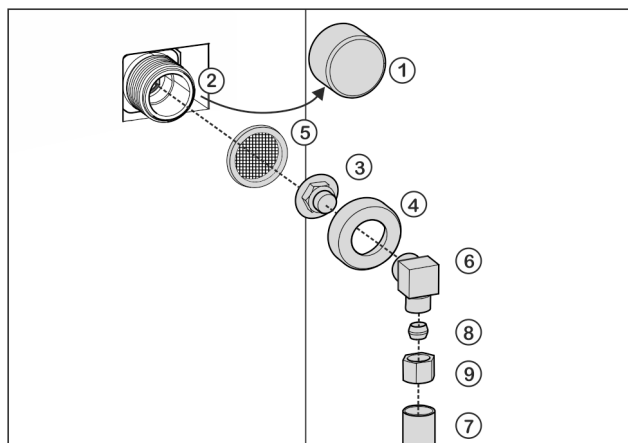

Fig. 28
- ▶ Remove cap *Fig. 28 (1)* from solenoid valve *Fig. 28 (2)*.
- ▶ Insert coupler *Fig. 28 (3)* into union nut *Fig. 28 (4)*.
- ▶ Insert the filter *Fig. 28 (5)* with the recess pointing down towards the coupler *Fig. 28 (3)*.
- ▶ Screw the union nut *Fig. 28 (4)* by hand onto the thread of the solenoid valve *Fig. 28 (2)* until it is firmly in place.
- ▶ Screw on angle piece *Fig. 28 (6)*.
- ▶ Connect the water pipe *Fig. 28 (7)* (e. g. 1/4" OD copper pipe) with the clamp ring *Fig. 28 (8)* and nut *Fig. 28 (9)* to the elbow connector *Fig. 28 (6)*.
- ▶ If necessary: Fasten the water pipe *Fig. 28 (7)* to the housing with the guide clip.
- ▶ Put angle piece *Fig. 28 (6)* to one side.
- ▶ Connect the water pipe *Fig. 28 (7)* (e. g. 1/4" OD copper pipe) with the clamp ring *Fig. 28 (8)* and nut *Fig. 28 (9)* to the coupler *Fig. 28 (3)*.